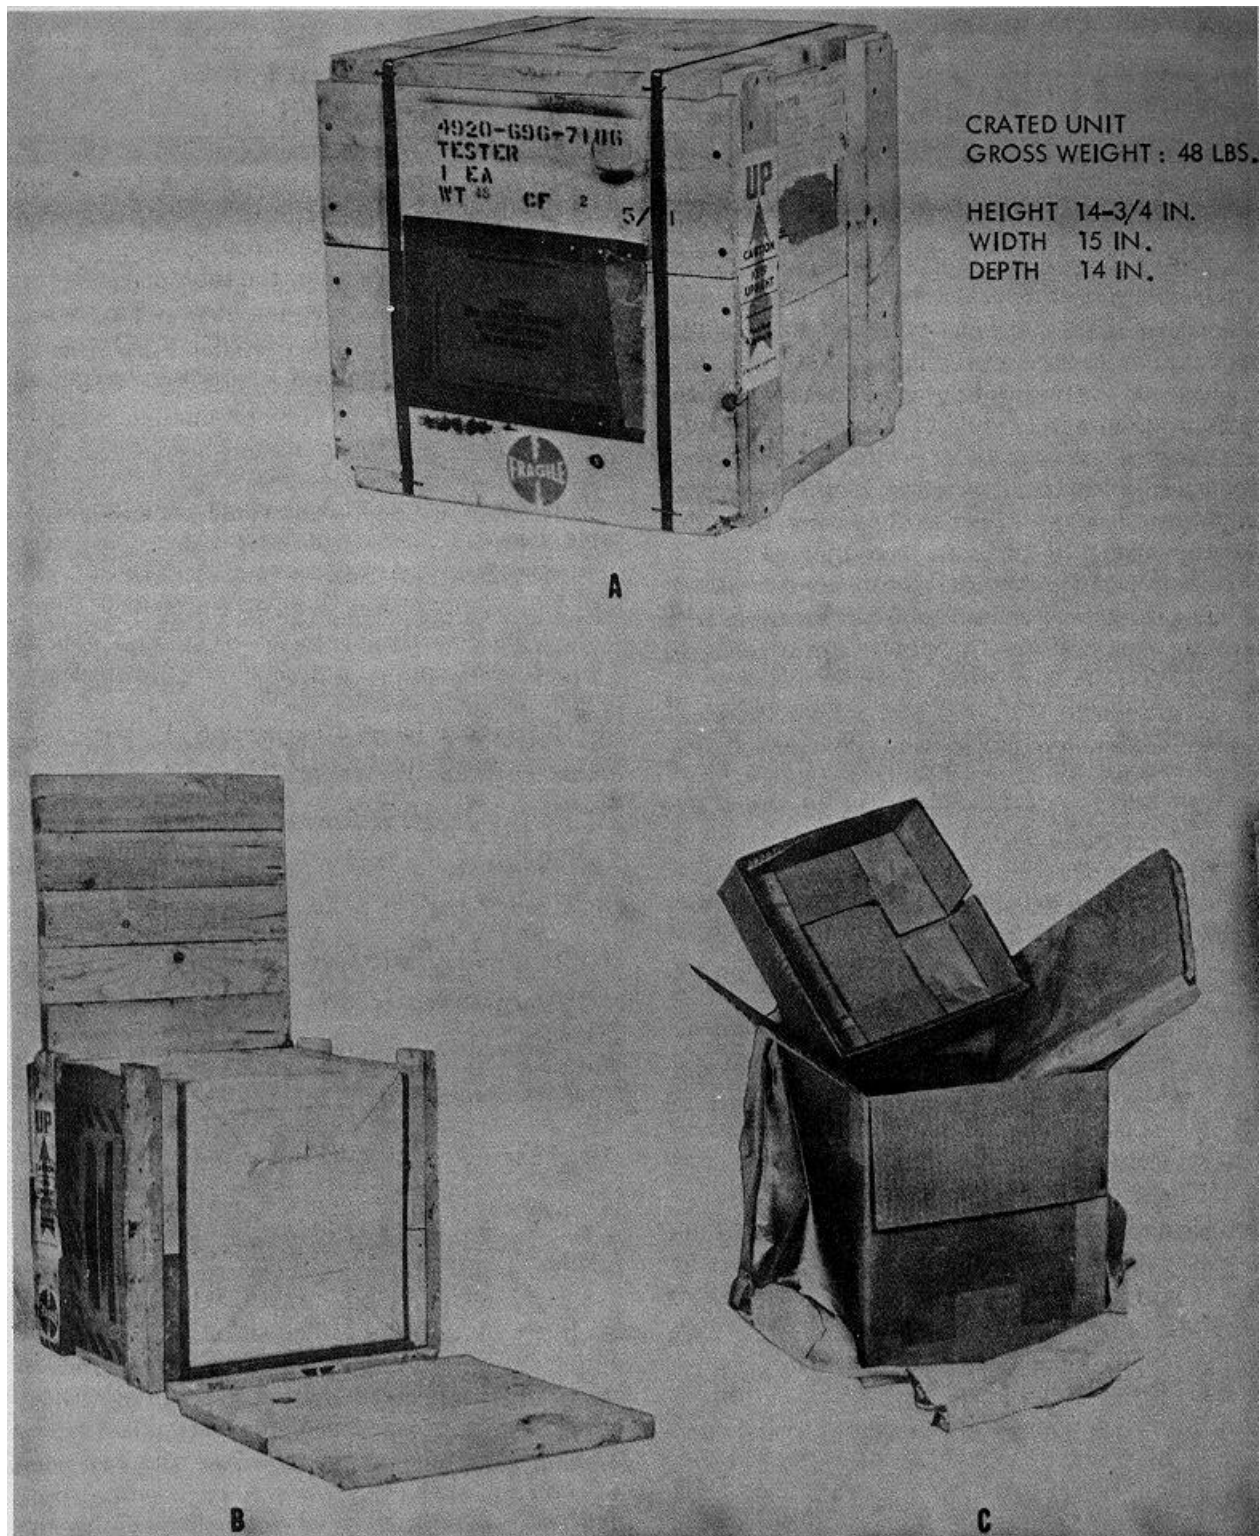

Figure 5. Unpackaging sequence.
*a. Unloading.* Since the table assembly, including accessories, is light in weight and easily handled, few special unloading instructions are required. However, since the table assembly is precision mounted, it should be shipped, unloaded, and stored in its normal upright position and handled with care. The upright position is indicated by an arrow and the word "UP" on the outside of the crate (fig. 5).
*b. Uncratering.* See figure 5 for the unpackaging sequence. Exercise care in unpacking the table assembly using the following procedure:
- (1) Visually inspect the crate for evidence of damage. If the crate is received in a damaged condition, DD Form 6 should be filled out by authorized personnel.
- (2) Cut the steel bands securing the crate and pull nails out from top of crate. Remove top.
- (3) Pull nails from one side of crate and remove side.
- (4) Remove packed unit from crate and open water vapor-proof barrier bag.
- (5) Open cardboard carton and remove padding, and wrapped adapter from top of carton.
- (6) Remove table assembly from carton.
- (7) Conserve shipping crate, carton, and packaging materials for future use in storage and shipping.